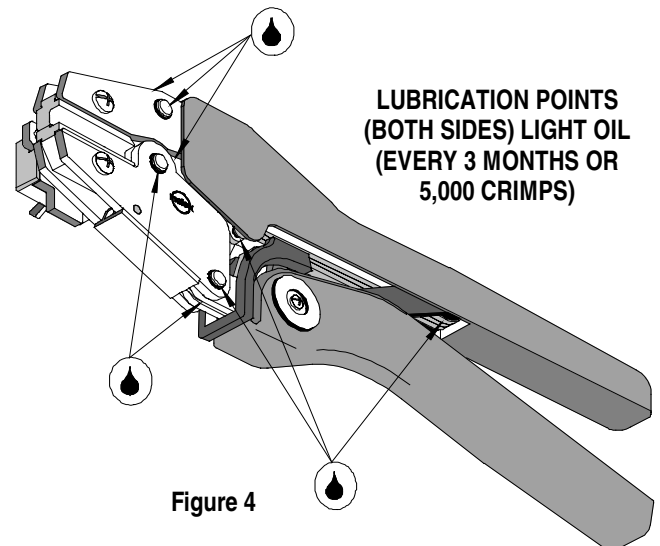

Figure 4
3. Make certain all pins; pivot points and bearing surfaces are protected with a thin coat of high quality machine oil. Do not oil excessively. This tool was engineered for durability, but like any fine piece of equipment it needs cleaning and lubrication for a maximum service life of trouble-free crimping. A light oil such as 30 weight automotive oil used at the oil points shown in Figure 4, every 5,000 crimps or 3 months will significantly enhance the tool life and ensure a stable calibration.